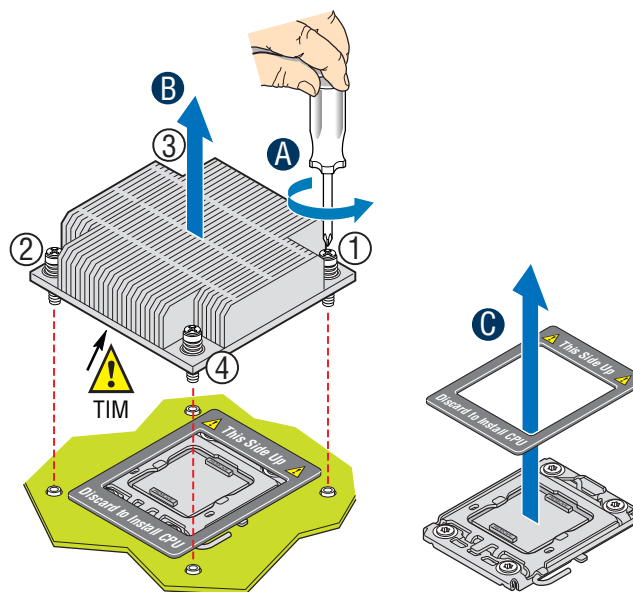

Figure 1. Removing the Heatsink
1. Loosen the four captive screws on the heatsink corners in a diagonal manner according to the numbers shown in figure 1 as follows:
- ii. Remove and discard the spacer (see letter "C" in figure 1).